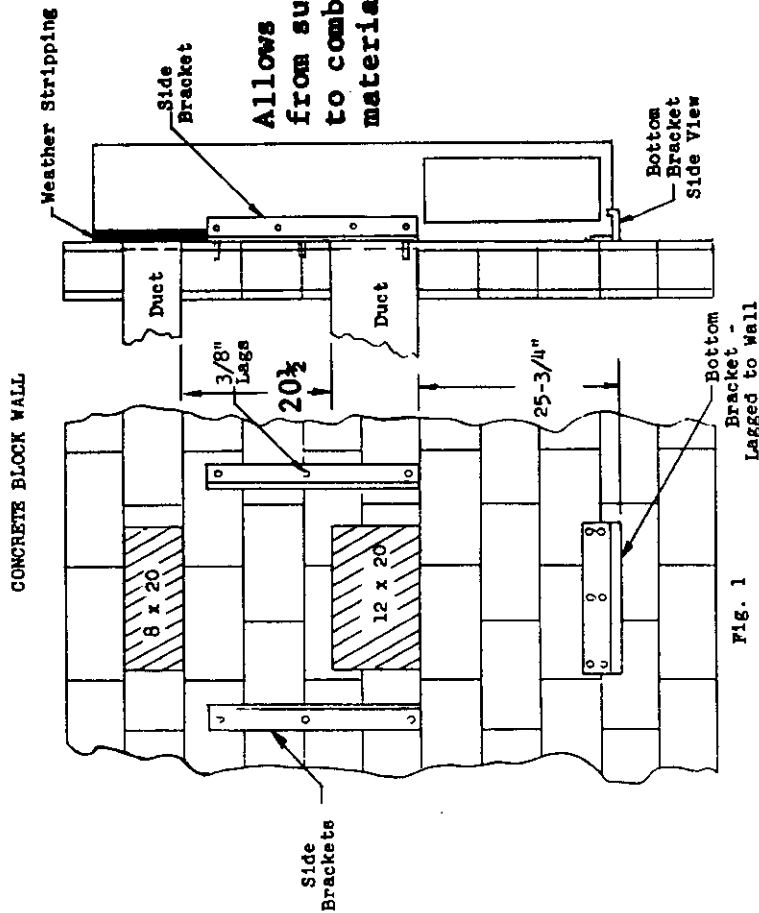

Fig. 1
1. Two holes, the size of the supply and return air openings must be cut through the wall as shown in Fig. 1, 2, 3, 4, 5 and 6.
These units are secured by wall mounting brackets which secure the unit to the outside wall surface at both sides and at the bottom. (Fig. 1).